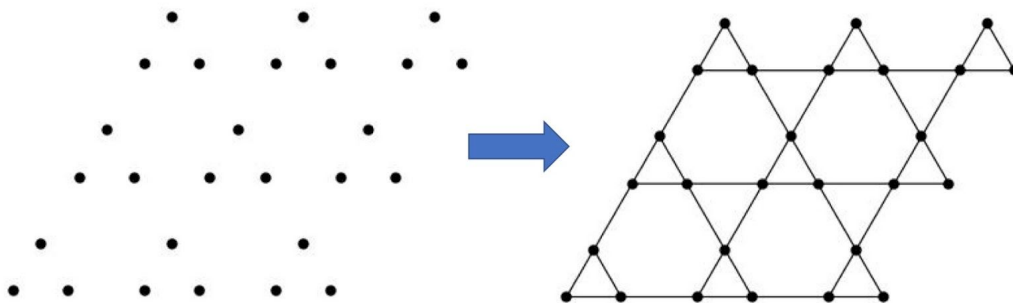
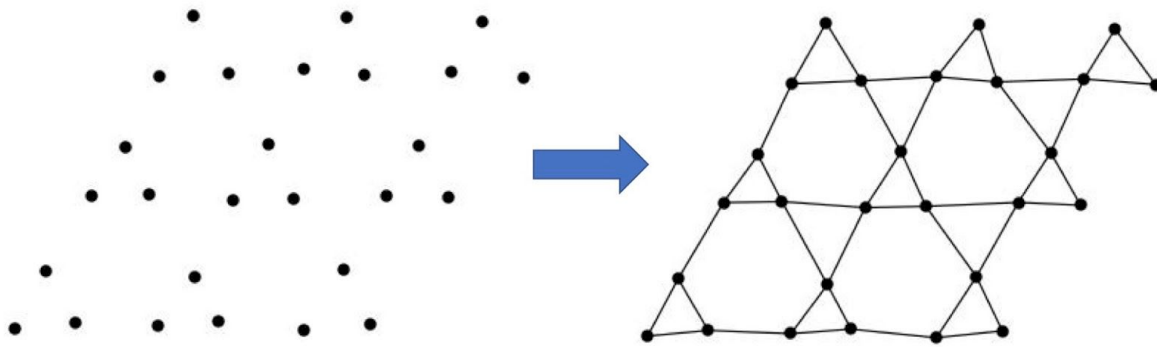

Figure 1: Ordered Kagome lattice without (left) and with (right) bond connectivity
Figure 2: Disordered Kagome lattice without (left) and with (right) bond connectivity
As observed, the input image of figure 2 appears identical to the one of figure 1, at least to the human eye. But despite their apparent similarities, when the bonds are plotted, it becomes clear each image represents two very different systems. This “bond-plotting” model can facilitate the classification of these mechanical systems and could be very enriching for the scientific community that studies such materials.
- The remaining cells are generated by a set of discrete geometric translations to form a periodic structure. This is the ordered structure of figure 1.
- Each point in each cell is then shifted by a small and yet random displacement to create an image like figure 2: the structure appears to carry a long range order but contains small variations from one cell to another.
- For the images with bonds, the points are then connected by straight lines (the edges) as indicated on figure 1 and 2. The bond connectivity is the same for all figures.
- 1) If the model cannot train on the type of images provided in figures 1 and 2, we can assist it by providing easier images to build on such as: